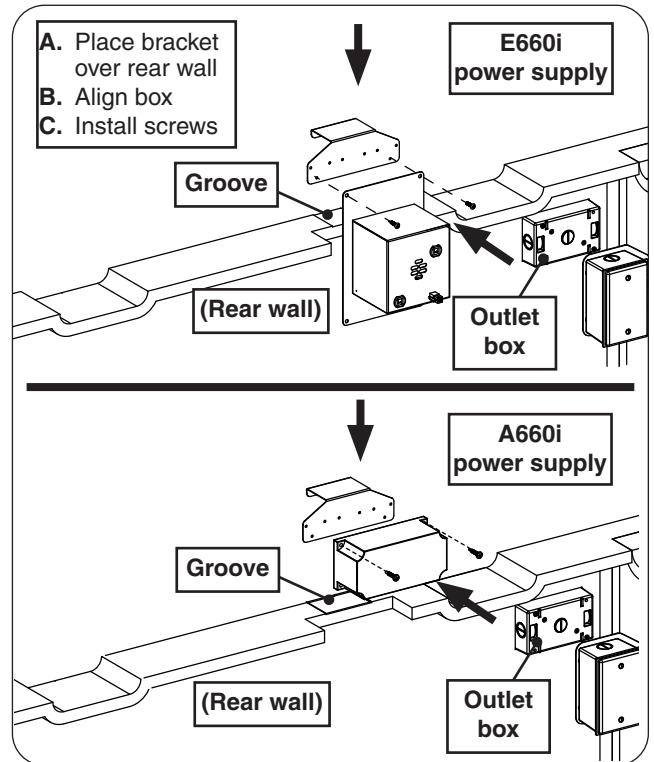

Fig. 11-1 Install power supply box
1. **First** place the power supply box bracket over the rear wall, in the groove just to the left of the outlet box (see Fig. 11-1).
2. Align the pilot holes on the power supply box with the holes on the bracket, then insert the two Phillips screws and tighten with the power drill and #2 Phillips driver (see Fig. 11-1). **DO NOT OVERTIGHTEN.**